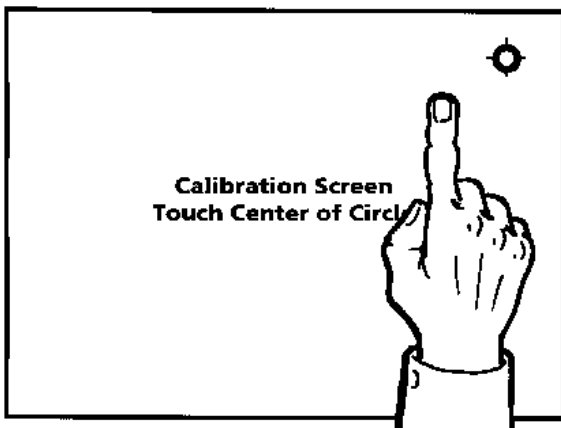

Figure 1a
1. Enter calibrate mode. When the first dot appears, intentionally touch the screen about 1” away from the dot, diagonally, towards the center of the screen (repeat this procedure for the second calibration dot; see Figures 1a and 1b). You are now in TEST SCREEN mode. As you test the screen, you should notice that the crosshair is considerably out of calibration. By completing this step, you have shown that the machine is accepting calibration input.